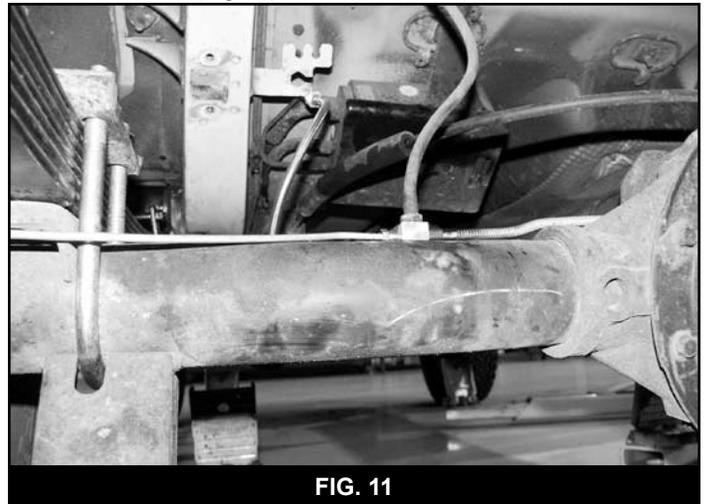

FIG. 11
66. Install new BDS rear brake line (22512) in place. Torque to 25 ft-lbs. (Fig 11)